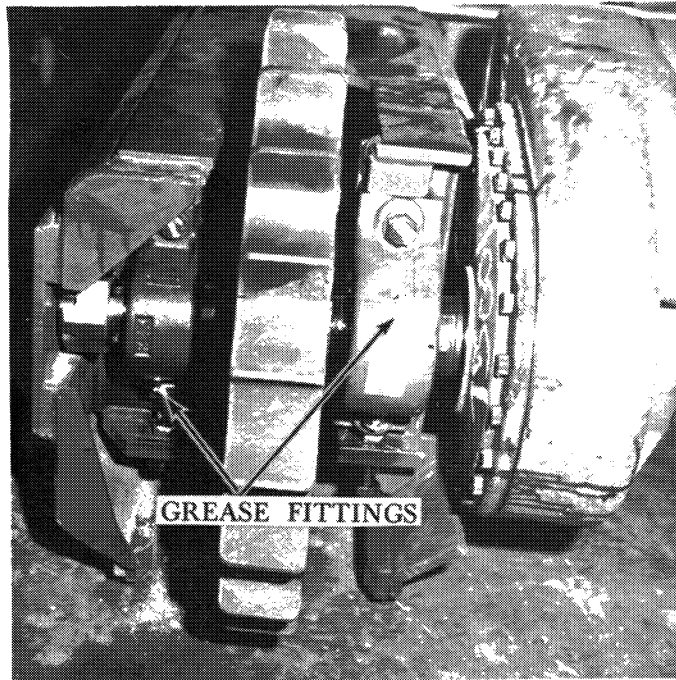

Figure 1. Grease Fitting on Drive Sprocket Pillow Blocks
**DRIVE SPROCKET PILLOW BLOCKS:** Lubricate daily or sooner, depending on working conditions. If working in water or extreme mud conditions, flush pillow blocks twice daily with pressure gun until contaminated grease disappears. See Figure 1.